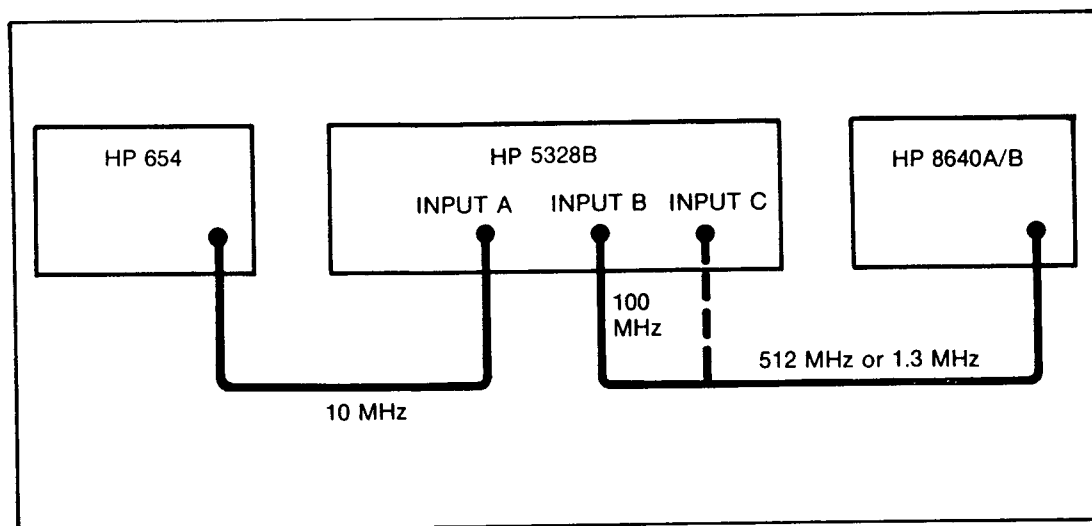

Figure 4-13. Ratio Measurement — Test Setup
- Set up equipment as shown in Figure 4-13.